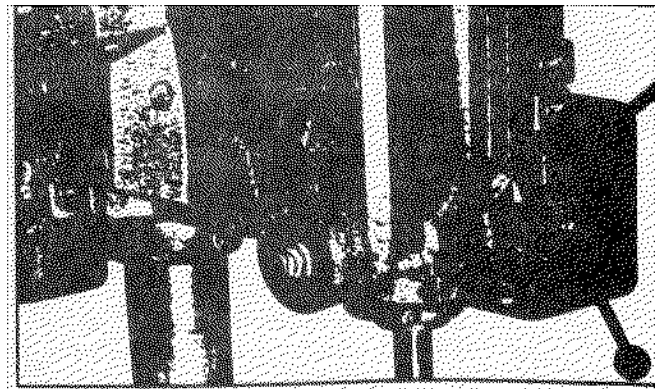

Fig. 1
For the purpose of automatically returning the spindle upward after a hole has been drilled, a spring is provided enclosed in the case (A) Fig. 1, and is located on the left side of the drill press head. This spring has been properly adjusted at the factory and this adjustment should not be disturbed unless absolutely necessary.
1. Back off the two nuts (B) Fig. 1. NOTE: Do not remove the inside nut from the shaft. The nuts (B) should be backed off just far enough so that the spring housing (A) can be disengaged from the roll pin in the head casting.
2. With a firm hold on the spring housing (A) Fig. 1, disengage it from the pin in the drill press head, by pulling the housing straight out, and turn the housing counterclockwise to increase or clockwise to decrease tension. CAUTION: BE CAREFUL NOT TO BOTTOM THE RETURN SPRING WHILE TURNING THE HOUSING COUNTERCLOCKWISE. THERE SHOULD BE ENOUGH SLACK LEFT IN THE SPRING TO PERMIT LOWERING THE SPINDLE THE FULL AMOUNT OF TRAVEL. Be sure the pin in the drill press head is engaged with the spring housing before releasing grip.
3. Retighten the two nuts (B) Fig. 1. NOTE: Do not overtighten the inside nut against the spring housing (A) as this may cause binding of the pinion shaft.